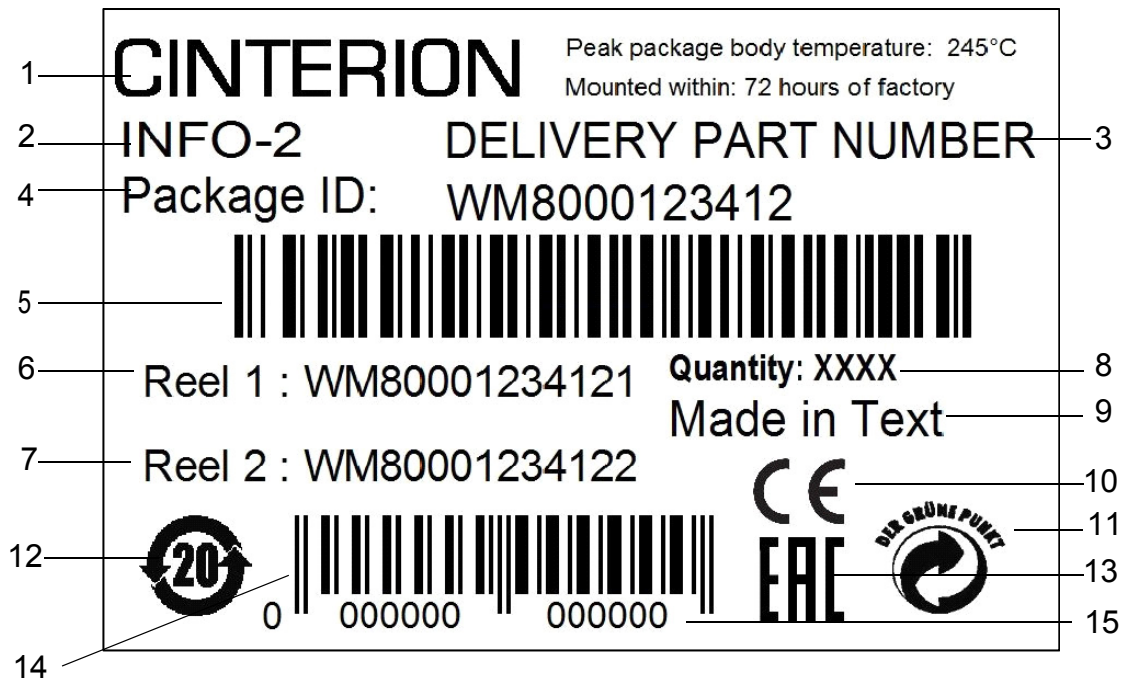

Figure 50: Sample of VP box label
4.3.2.2	Added Figure 50 and Table 23 for the information of VP box label.